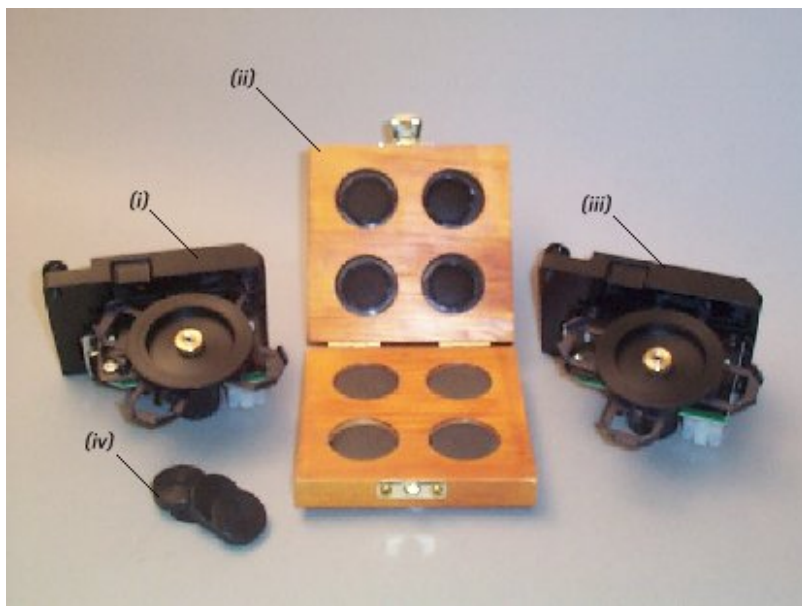
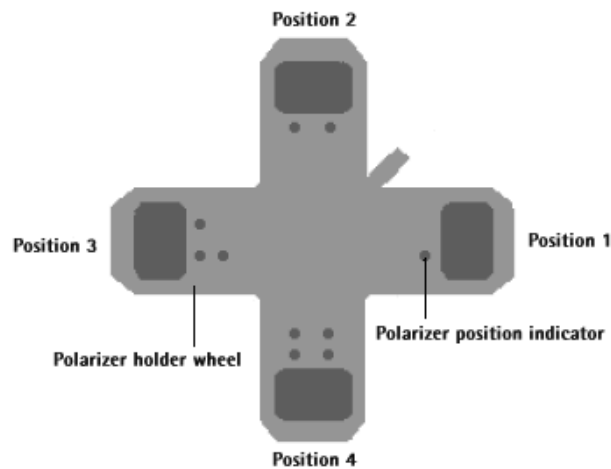

Figure 1. i) & iii) Two automated polarizers ii) Vertical and horizontal polarizers iv) Four black disks
Figure 3a. Polarizer positioning
The accessory consists of four metal arms extending from a central wheel (Figure 1 (i)). Each arm is labeled as 1, 2, 3 or 4 by holes etched into the wheel, just below the filter position, (Figure 3a).
Your accessory is packed in a foam-lined cardboard box. Inside the box you will find a wooden case that contains 2 vertical and 2 horizontal polarizers (Figure 1 (ii)), a plastic bag containing 4 black plastic disks (Figure 1 (iv)), and 2 cardboard boxes, each containing a motorized wheel, into which the polarizers must be mounted. Check that you have received all of the items in the accessory kit by referring to the packing list included with the shipment (Figure 1).
- 2 Polarizers now need to be placed in the accessories. There are four spaces, each labeled 1 to 4 by holes etched into the arms of the polarizer holder, (Figure 3a).